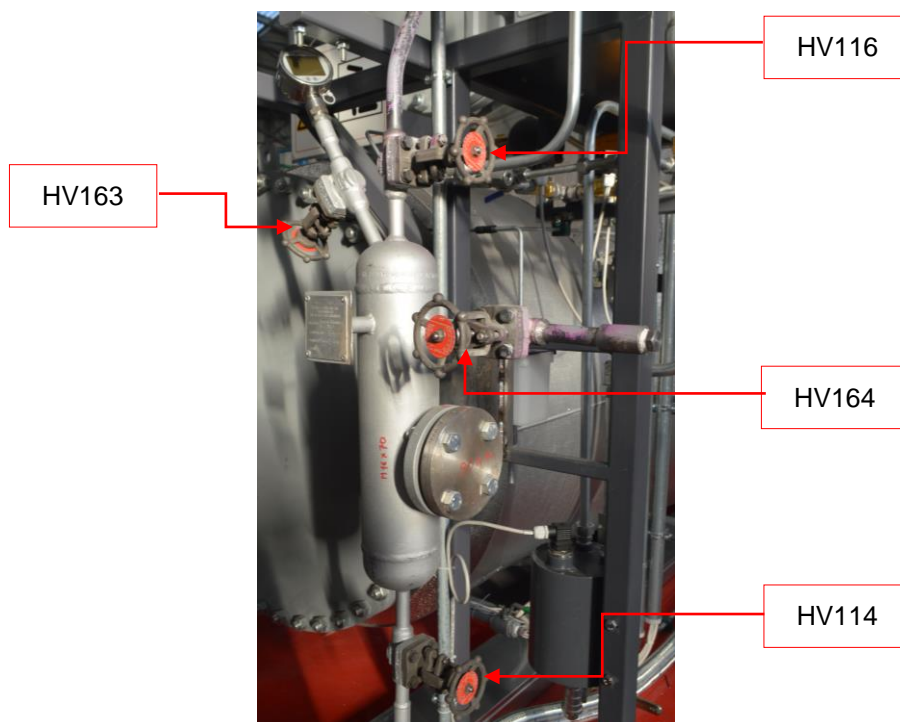

Figure 15.12-1: V105 separator.
- Remove the cap and open valve HV163 in order to let air in (see Figure 15.12-1);